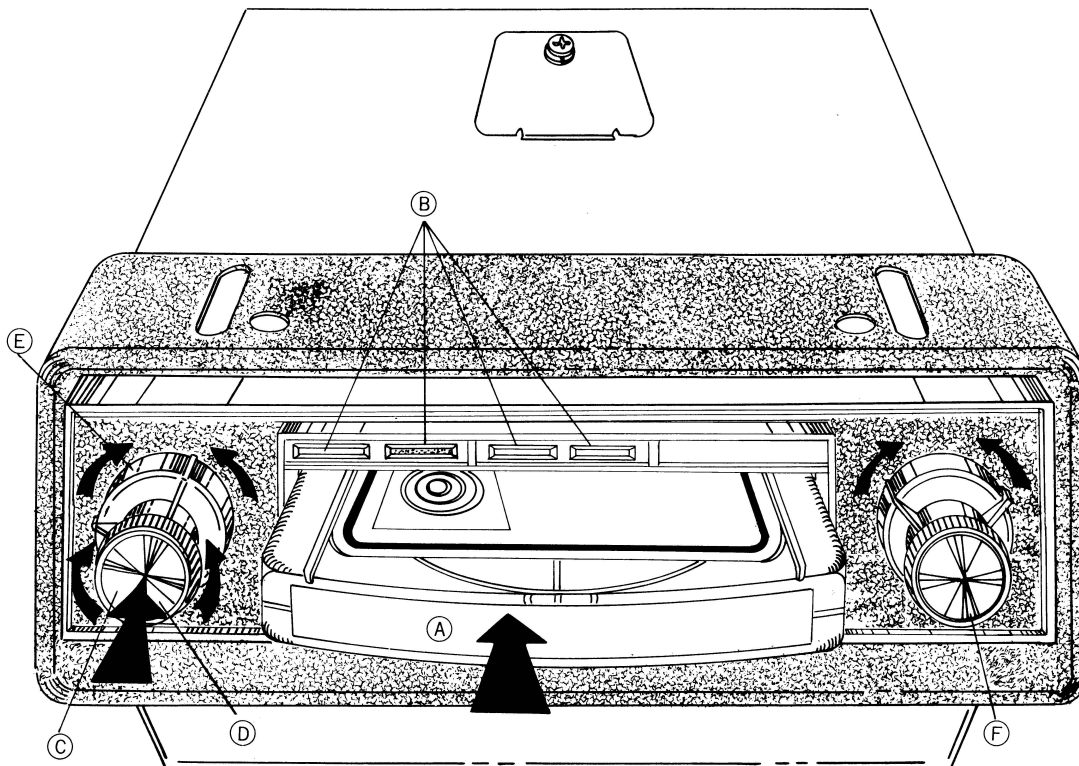

Fig. 2
⑦ Pack support	(360-372-000)	②⑬ Choke	(009-039-002)
⑧ Body bracket	(300-281-001)	②⑭ Motor assembly	(960-063-000)
⑨ Escutcheon	(370-198-000)	②⑮ Cartridge guide	(960-064-000)
⑩ Decorative panel (right)	(371-081-000)	②⑯ Head azimuth adjusting screw
⑪ Separation control knob (Outer)	(380-213-000)	②⑰ Reproduce head	(011-012-000)
⑫ Separation control knob (Inner)	(380-212-000)	②⑱ Head height adjusting screw
⑬ Lower case	(3110-025-001)	②⑲ Capstan
⑭ Escutcheon	(370-193-100)
⑮ Decorative panel
⑯ Pilot decoration	(375-031-100)
* OPERATING PROCEDURE (Refer to Fig.2)
* MANUAL SWITCHING (Refer to Fig.2)